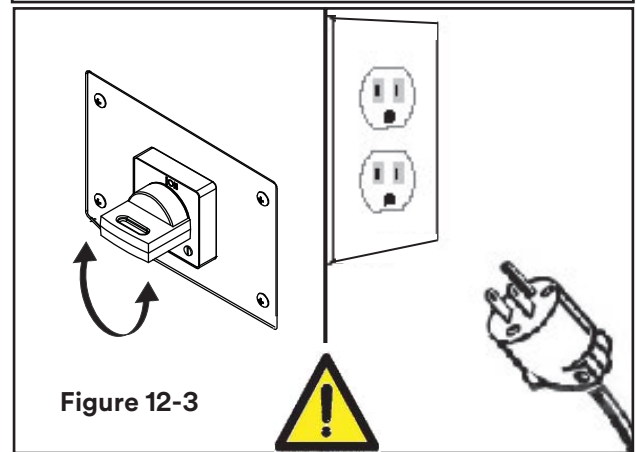

Figure 12-3
Turn the main switch ON (I) after the EMERGENCY BUTTON is released (**Figure 12-3**).
3. STOP (OFF) (O) main switch
Before carrying out any cleaning or maintenance operation, stop the machine by turning OFF (O) switch on the main and disconnect electric power (**Figure 12-3**).